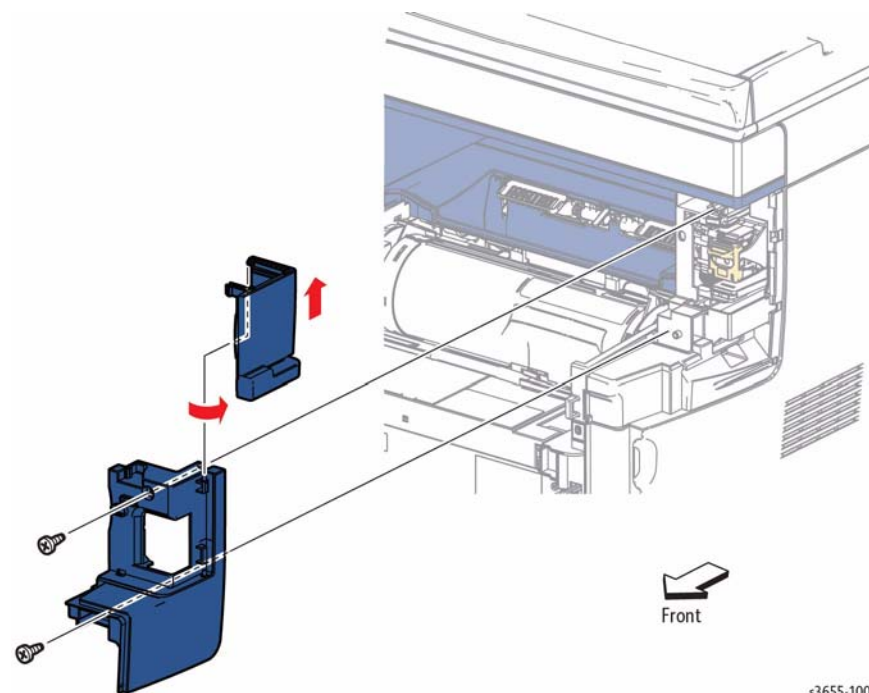

Figure 1 Remove the Stapler Cartridge Cover
3. Refer to Figure 1 and lift the cover from the bosses on the Stapler Cover to remove the cover.